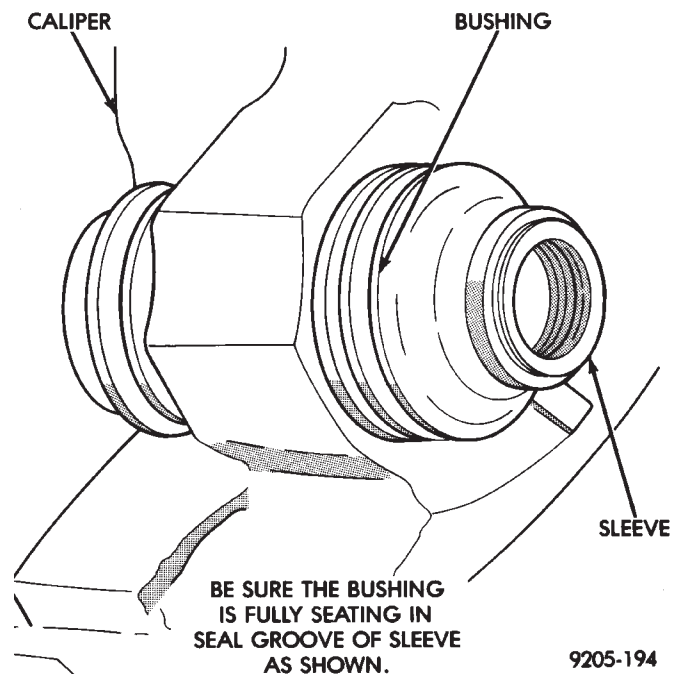

Fig. 83 Correctly Installed Caliper Sleeve And Bushing
(7) Holding sleeve in place, work other end of bushing over end of sleeve and into the seal groove on sleeve (Fig. 83). Be sure other end of bushing did not come out of seal groove in sleeve.
(8) When the sleeve is seated properly into the bushing, the sealed for life sleeve/bushing can be